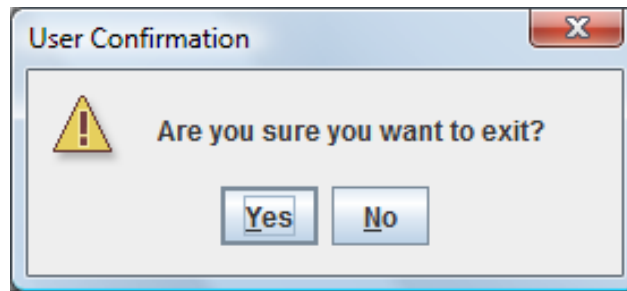

Fig. 13. RVLM – Stop and reset of station window during the test running
- "Stop" to stop the test, by confirming "OK" when asked: in this case the analysis is stopped and the station is reset (fig. 13), making it available for further analysis;